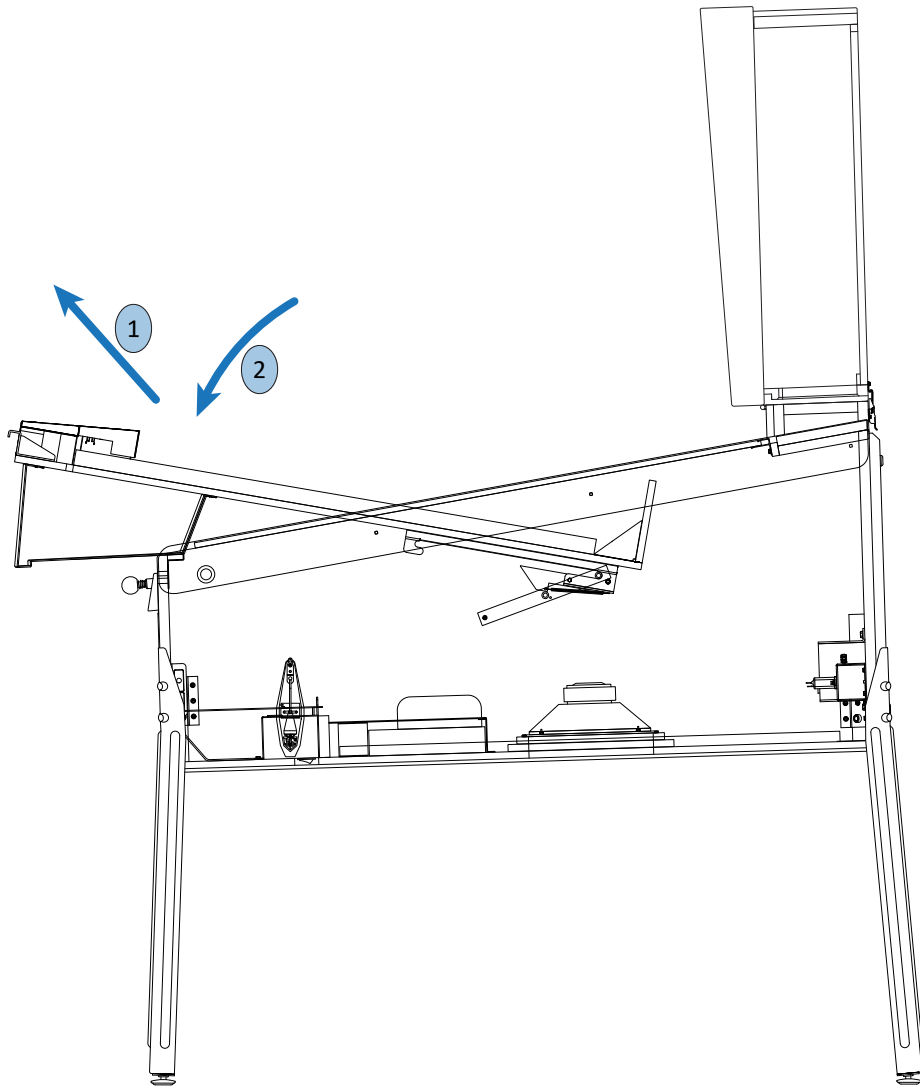

Figure 1-15. Moving the playfield to position 3.
16) Move the playfield from position 2 to 3 (figure 1-15). Pull it upward and outward until you reach the stops on either side (you will hear a distinct "click" on each side); again, lower the playfield, resting the support brackets on top of the channel/cabinet front. Remove any packing material from the playfield surface and/or shipping blocks from behind the back panel of the playfield/lower cabinet interior.